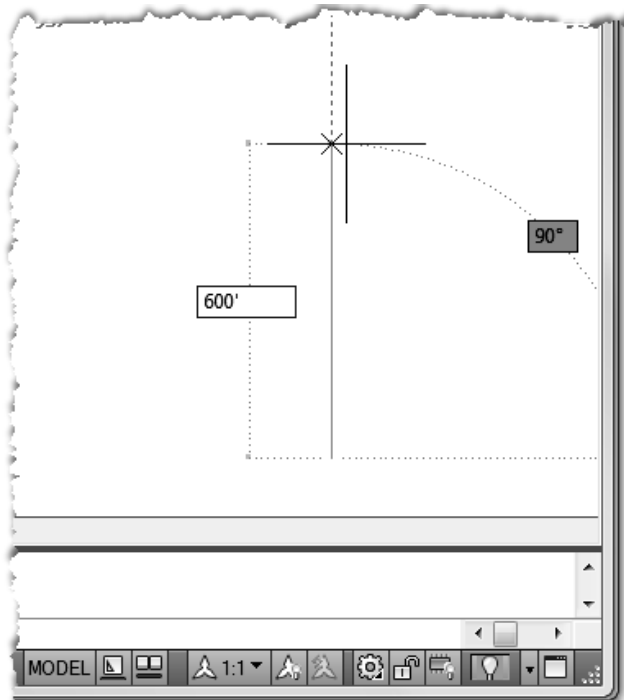

FIGURE 2-1.11 Drawing another line with the help of Polar Tracking
22. Move the crosshairs (i.e., mouse) straight up from your first point so that *Polar Tracking* activates (Figure 2-1.11).